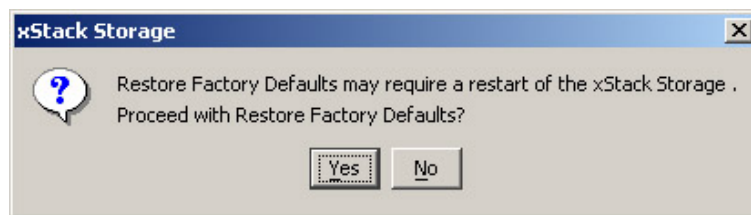

Figure 5-54. Restore Factory Defaults Message
1. On the **File** menu, click **Restore Factory Defaults**. The message in Figure 5-54 appears.